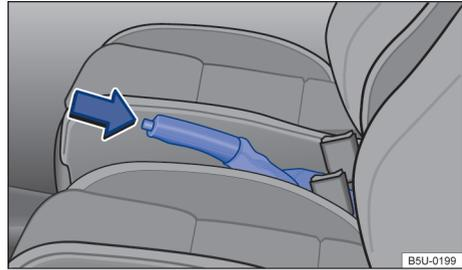

Fig. 88 Between front seats: handbrake lever.
- Press the interlock button and pull the handbrake lever upwards → Fig. 88 (arrow).
- Pull the handbrake lever slightly upwards and press the lock button → Fig. 88 (arrow).